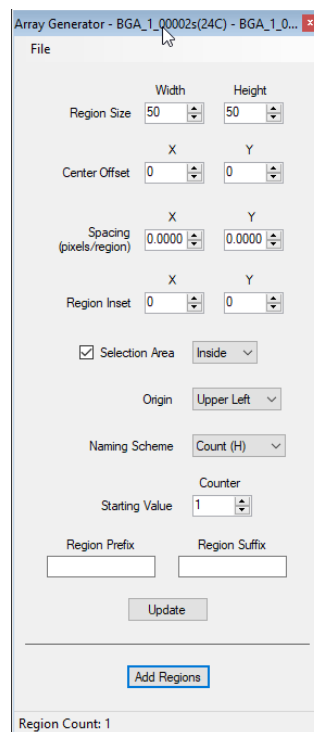

Figure 3.27 Partition Array Parameters
2. By default, a grid of ROIs appear on the phase image. Also, a box with various array parameter options appear (**Figure 3.27**). The **height** and **width** refer to the individual dimensions of a single ROI. The **center offset** is the distance of the center of the full array from the center of the image. The **spacing** controls how much space exists between each partition region. The **inset** refers to how much of the image is covered by the array (a larger inset reduces the total array size). Each option affects all ROIs in the same way.